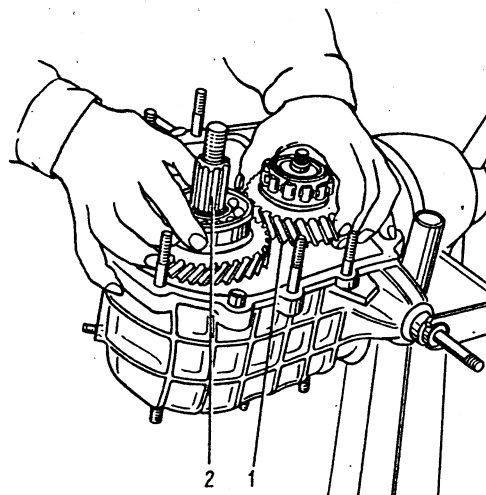

Fig. 3-40. Installation of Drive Shaft and Countershaft:
- the drive and intermediate shafts should be installed into the transfer case housing simultaneously (Fig. 3-40);